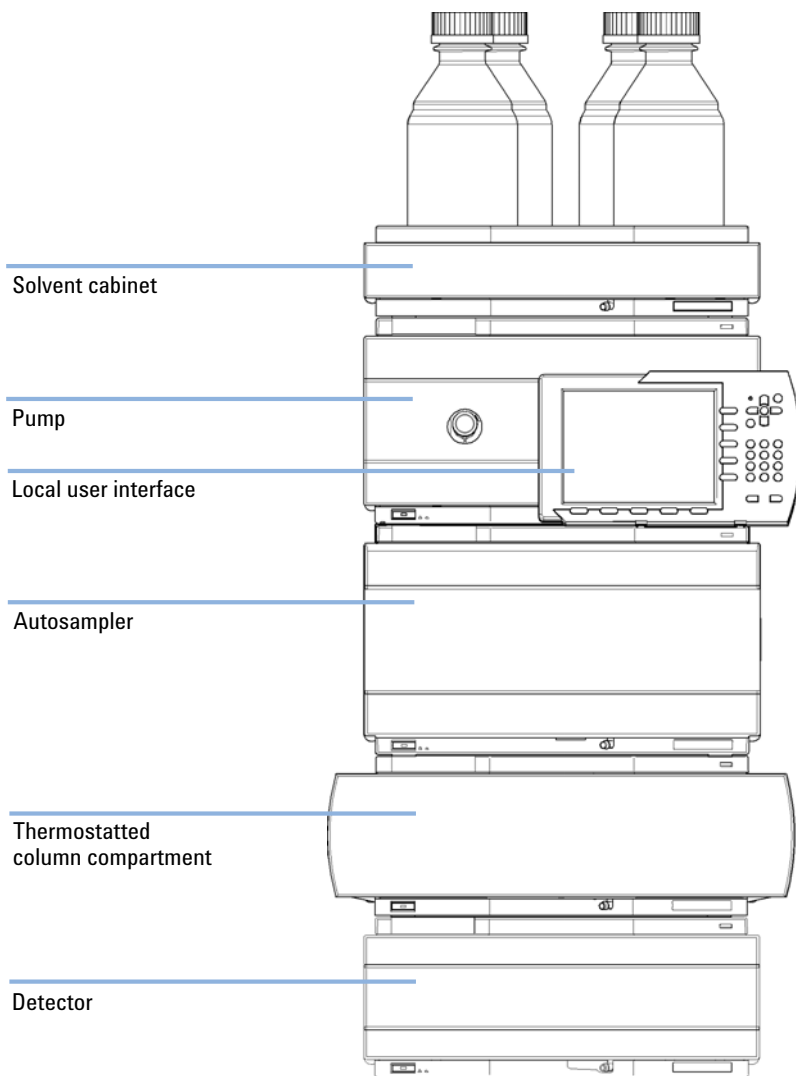
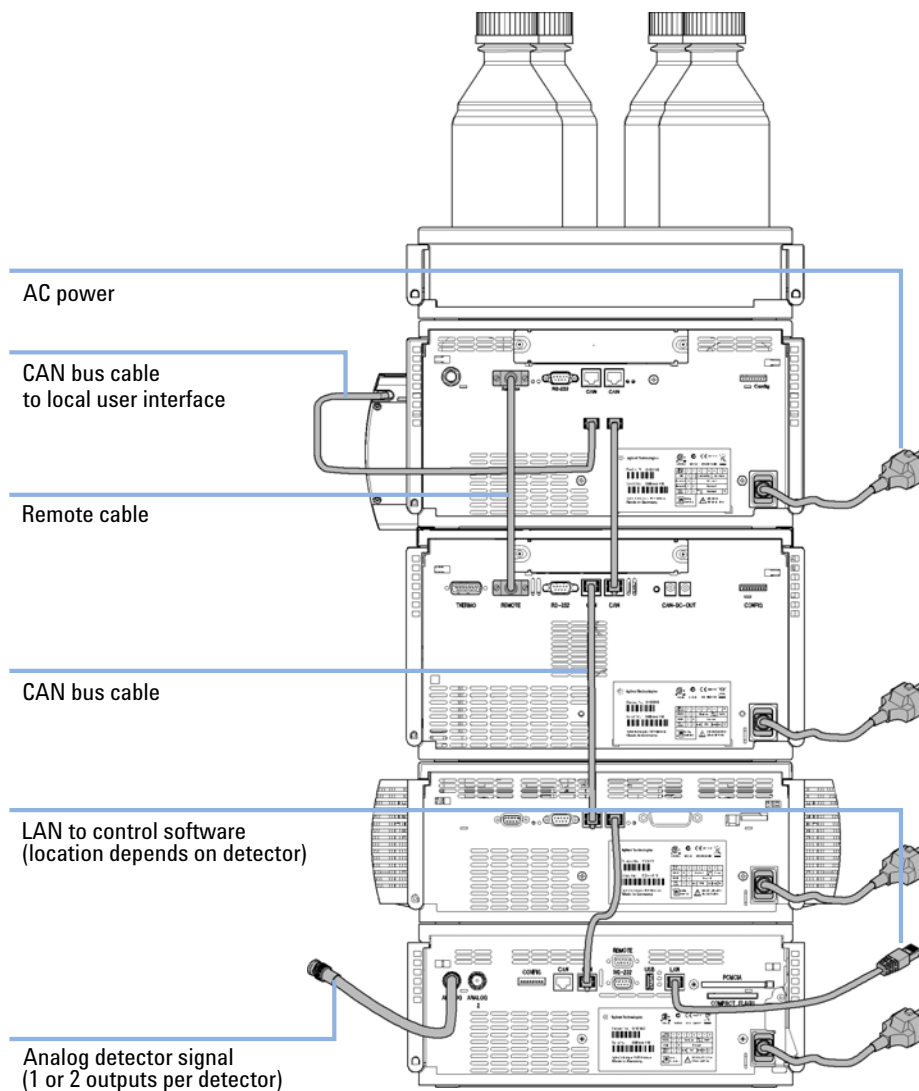

Figure 5 Recommended Stack Configuration (Front View)
Figure 6 Recommended Stack Configuration (Rear View)
Ensure optimum performance by installing the modules of the Agilent 1260 Infinity LC System in the following configuration (see Figure 5 on page 31 and Figure 6 on page 32). This configuration optimizes the flow path for minimum delay volume and minimizes the bench space required.
- 1** Place the individual modules in a stack configuration as shown in Figure 5 on page 31.
- 4** Connect the CAN cable to the CAN connector of the next module, see Figure 6 on page 32.